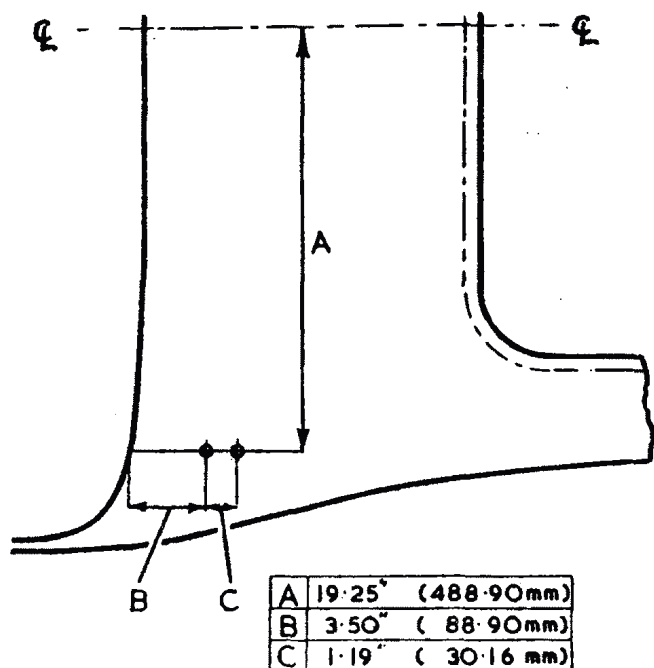

Fig. S.9
- (1) Mark off and drill two  $\frac{1}{8}$  in. (7.73 mm.) holes in the tonneau panel in the position shown in Fig. S.9.
- (2) Place the two spring washers on the two pan-head screws, pass the screws through the top end bracket of the long belt, and position the bracket on top of the tonneau panel.